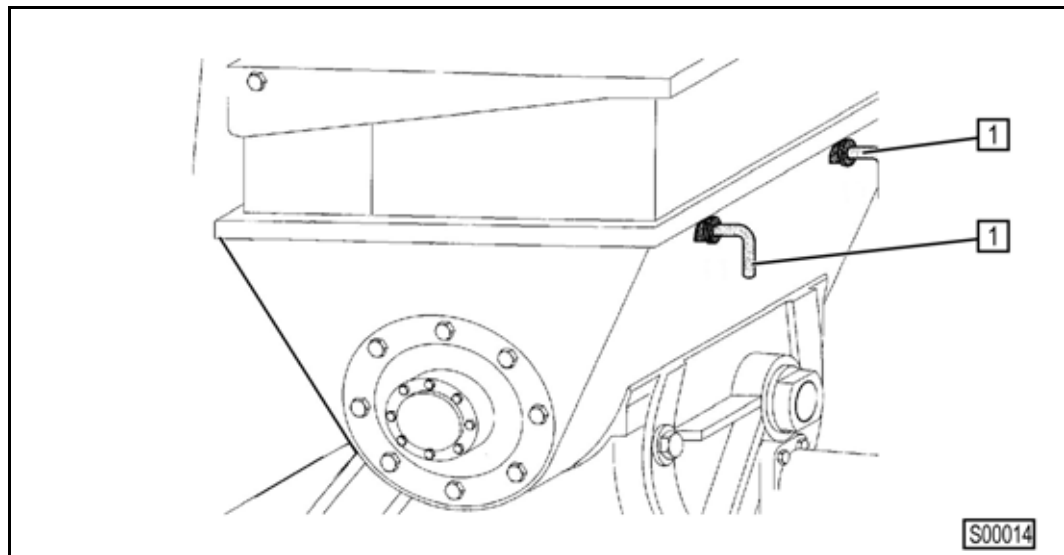

Fig. 57 Concrete filling hopper
- Check the lock on the mesh in the concrete filling hopper (e.g. locking bar 1, (Fig. 57 Concrete filling hopper)).